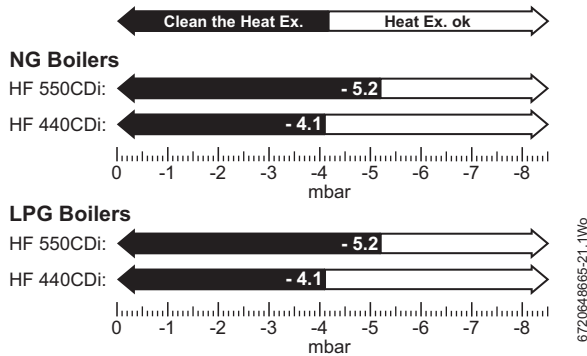

Fig. 64 Fan control pressure readings
- ▶ The pressure will read negative, refer to the chart in figure 64 below.